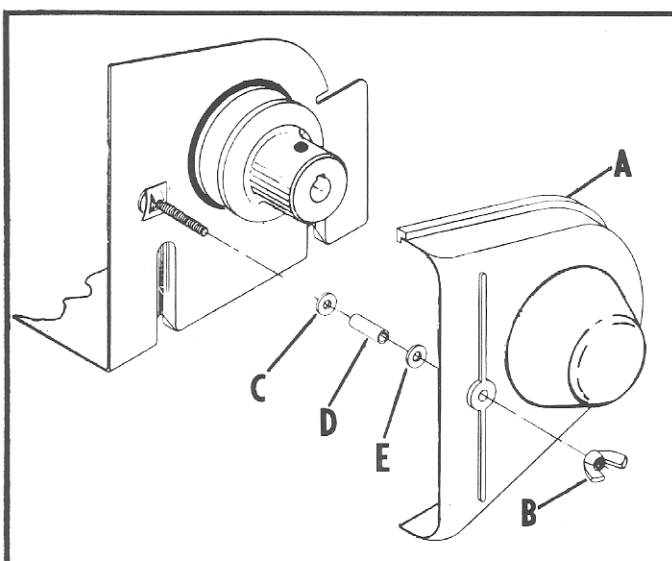

Fig. 11
9. Place washer (C), spacer (D) and washer (E) on carriage bolt, as shown in Fig. 11.
10. Assemble the belt and pulley cover (A) to the bracket and fasten in place using the wing nut (B), as shown in Fig. 11 and 12.